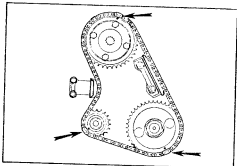

Fig. 10 - Valve timing marks
8. Position the chain wheel timing marks as shown in Fig. 10, retract the chain tensioner slipper and draw the three chain wheels and chain, off the shafts.